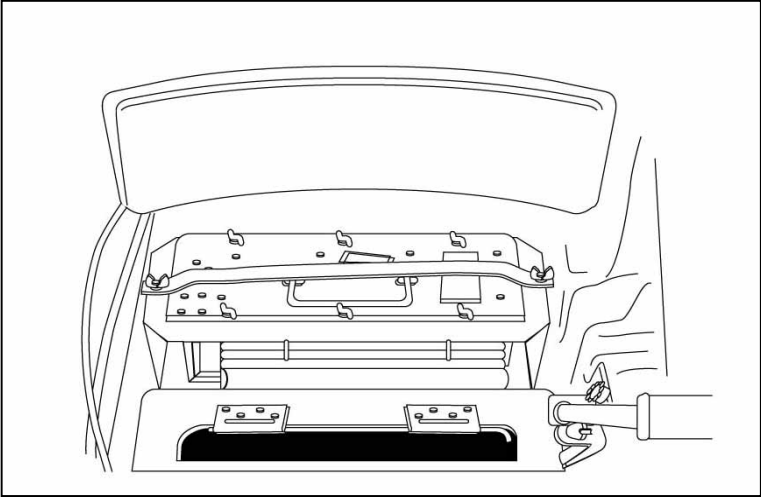

Figure 3-2-3: Spare Battery Stowage Location
- c. **Batteries (Spares).** There are two battery assemblies provided for use with the MGS when the weapon system is ground mounted, or when the MGS power conditioner has failed or is not available. One battery is stowed in a bracket in the front car behind the backrest of the loader's seat (see Figure 3-2-3). The second battery is stowed